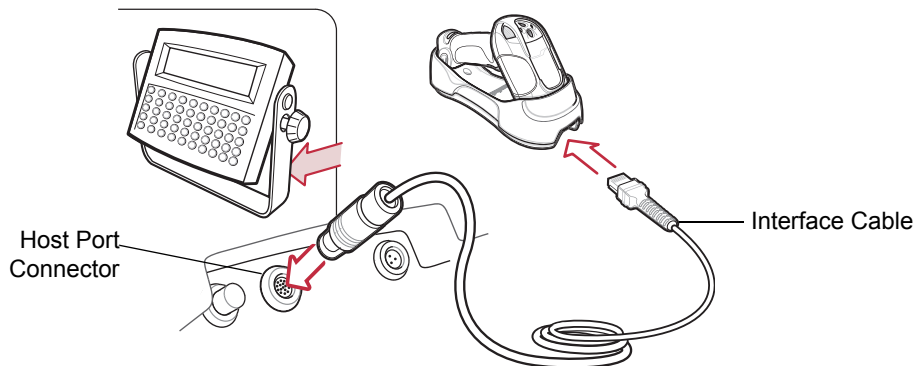

Figure 11-1 Scanner Emulation Connection
- ✓ **NOTE** Interface cables vary depending on configuration. The connectors may be different from those illustrated in Figure 11-1, but the steps to connect the digital scanner cradle are the same.